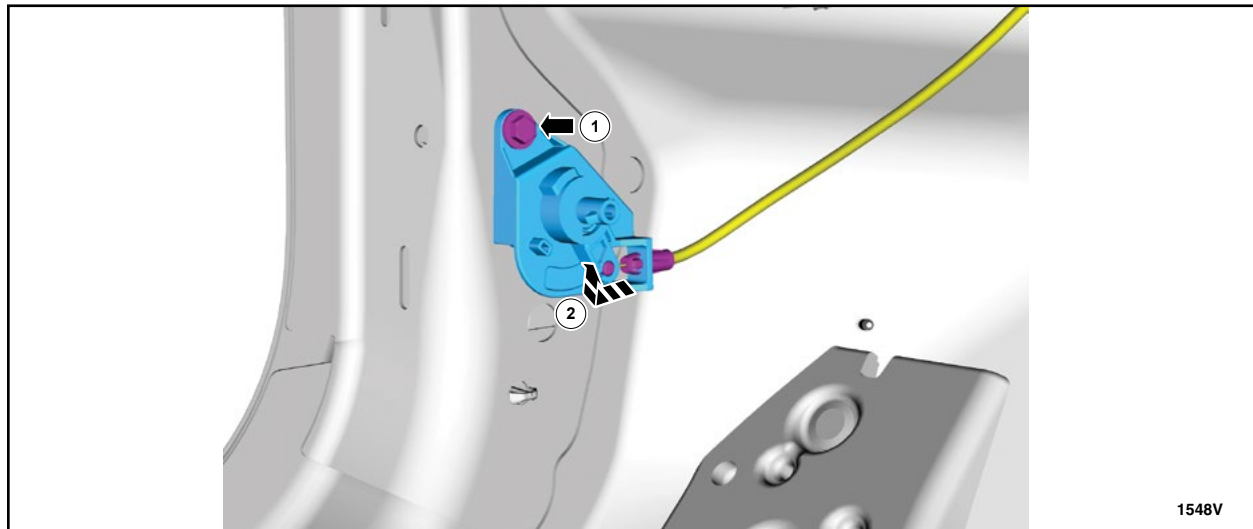

FIGURE 17
26. Remove the hood latch release and disconnect the rear hood latch release cable. See Figure 17.